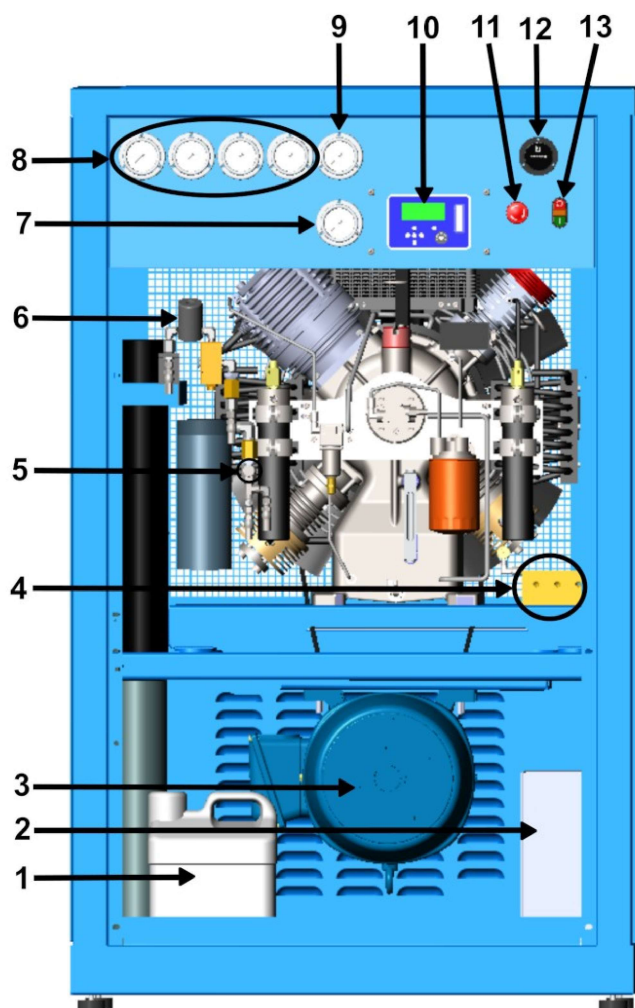

Figure 3.3
Table 3.3: Cabinet Components Identification for Figure 3.3
- Check the CO/Moisture indicator. (Figure 3.3)
- Check the level of water in the Auto Drain condensate jug. Empty if necessary. (Fig 3.3)